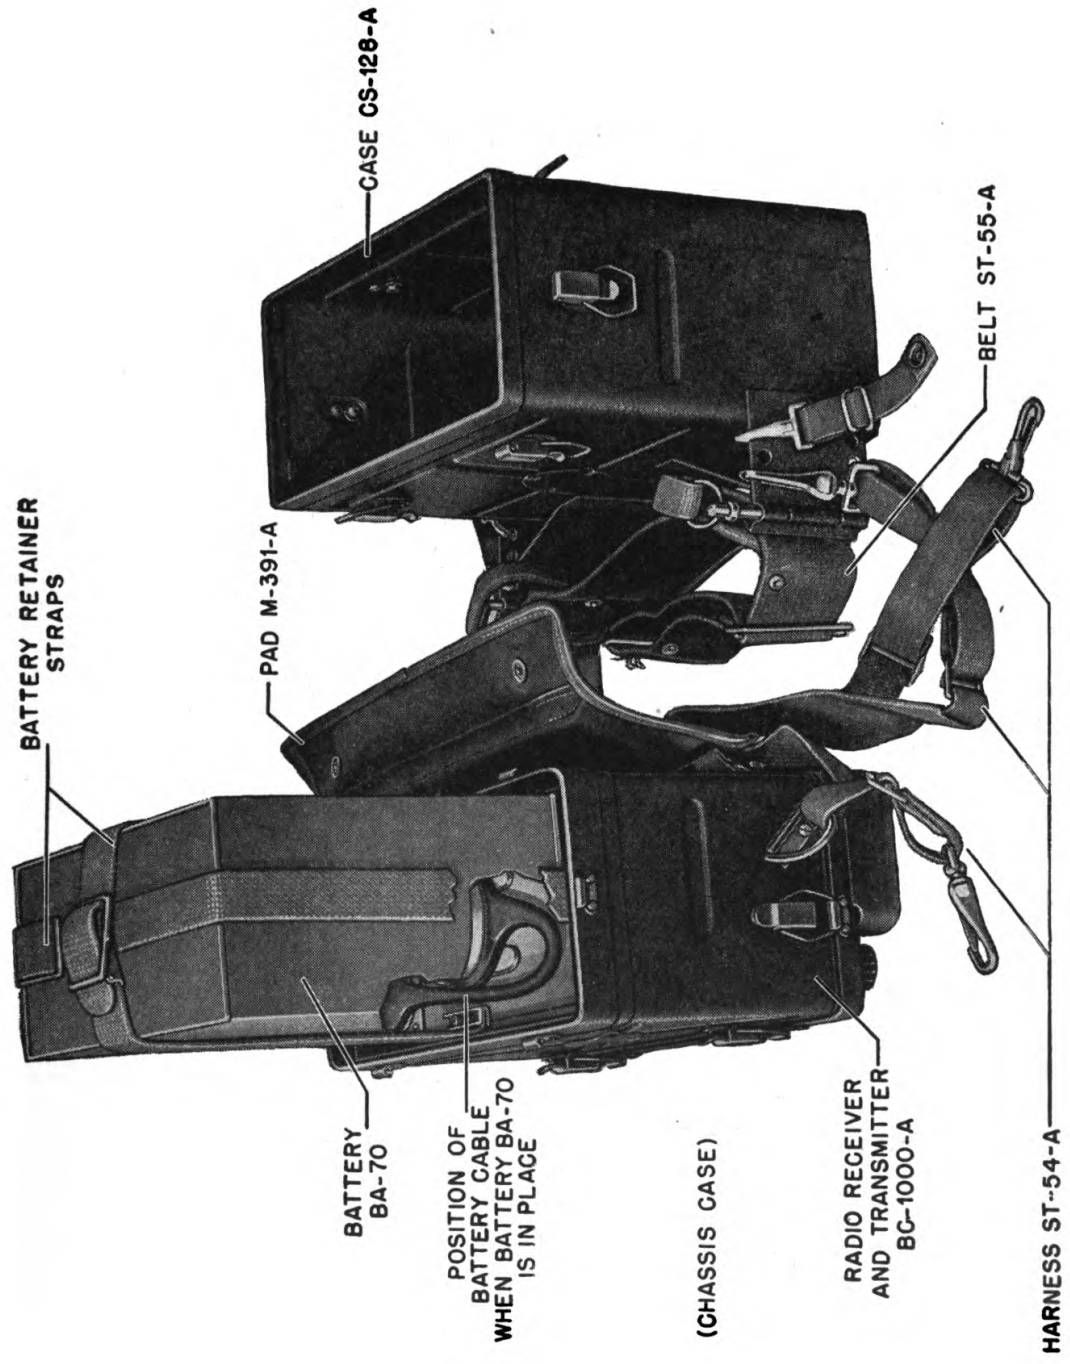

Figure 12. Disassembled View Showing Battery BA-70 In Place.
- large loop, as shown in Figure 12. The battery must be centered and aligned with set case. Avoid damage to the flange and gasket on the chassis case. *BE CAREFUL.*
(5) Securely fasten the battery to the chassis case with battery retainer straps, as shown in Figure 12.